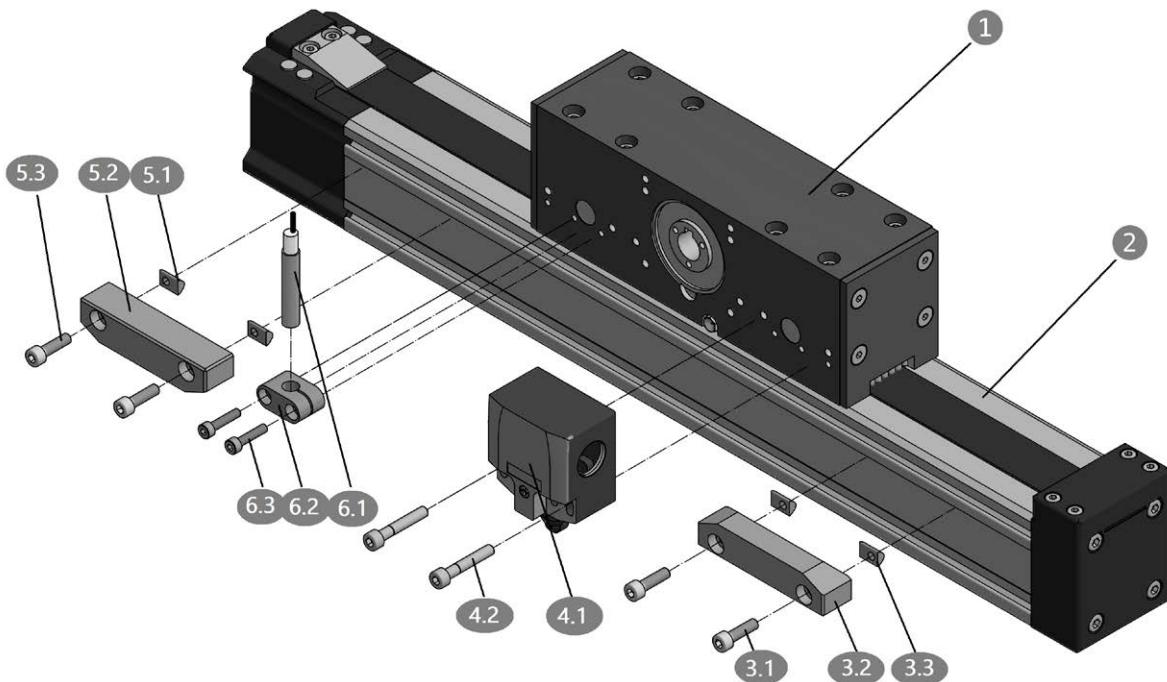

Figure 3.16 __ Mounting of limit switches on the drive head of linear axis AXE_A with moved profile
When mounting the limit switches and actuating elements the following steps must be performed according to Figure 3.16. The drive head ① and the profile ② of the linear axis are arranged symmetrically to allow mounting on both sides.